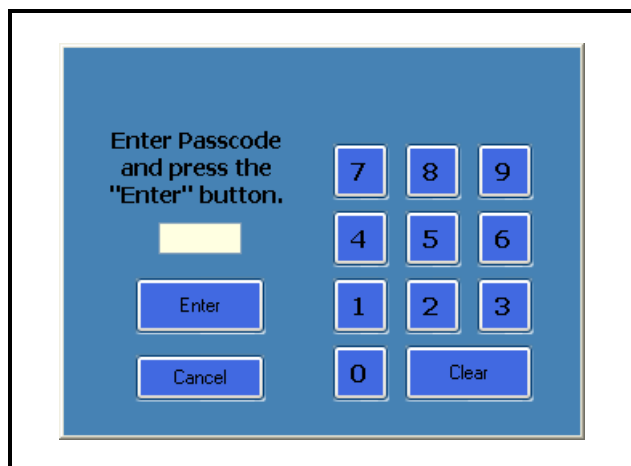

Figure 5-5 - Security Screen Login - Enter Passcode
1. Touch the tool icon  and enter the pass-code on the security screen (default code is **400**) as shown in *Figure 5-5*.
1. Touch the tool icon  and enter the pass-code on the security screen as shown in *Figure 5-5*.